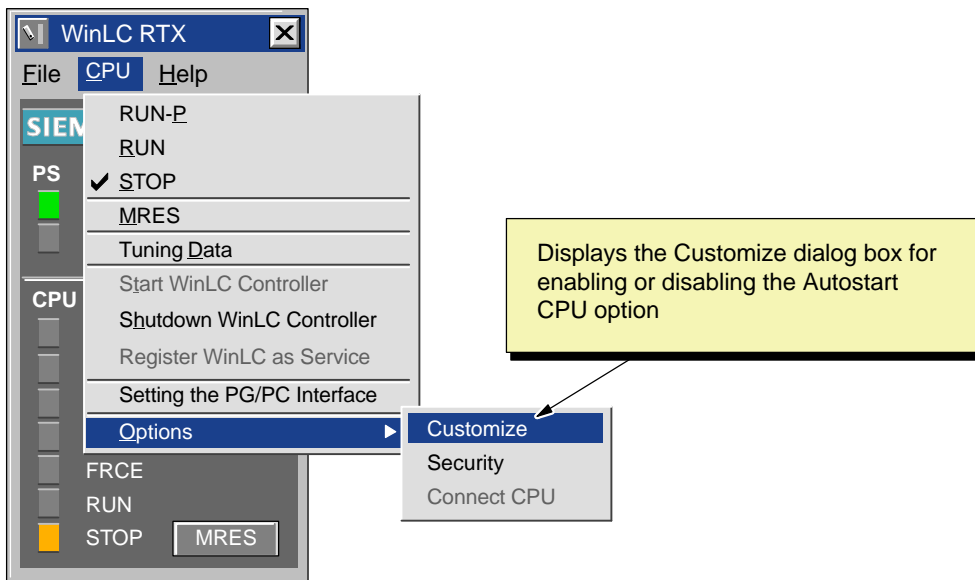

Figure 4-15 Accessing the “Customize” Dialog Box
1. As shown in Figure 4-15, select the **CPU > Options > Customize** menu command to display the Customize dialog box.